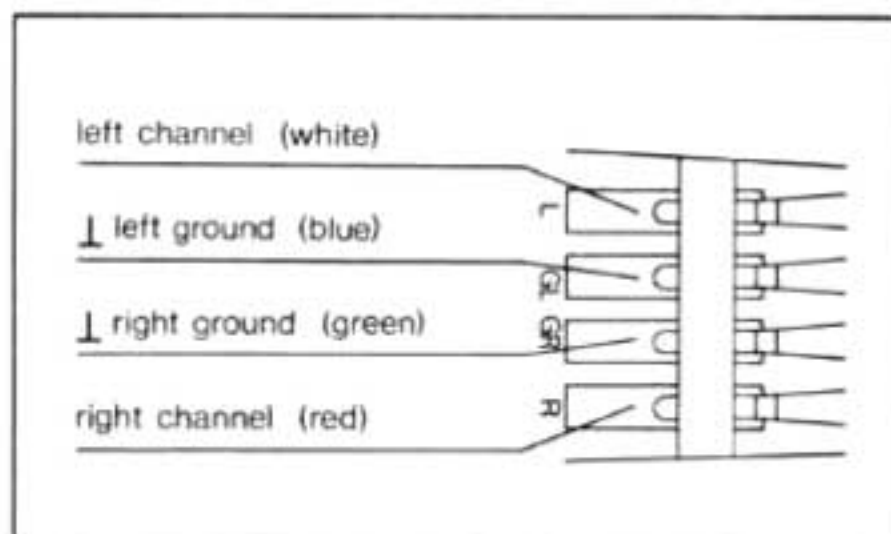

Fig. 13
3. The connections on the cartridge holder are marked and the wire leads are color-coded (Fig. 13). Connect the leads to the appropriate terminal pins on the cartridge.